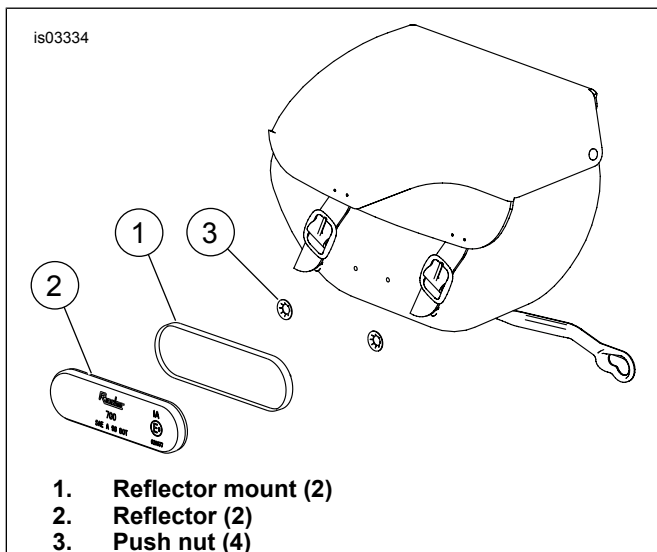

Figure 6. Install Reflectors
- See Figure 6. Position reflector mount (1) in center of saddlebag.